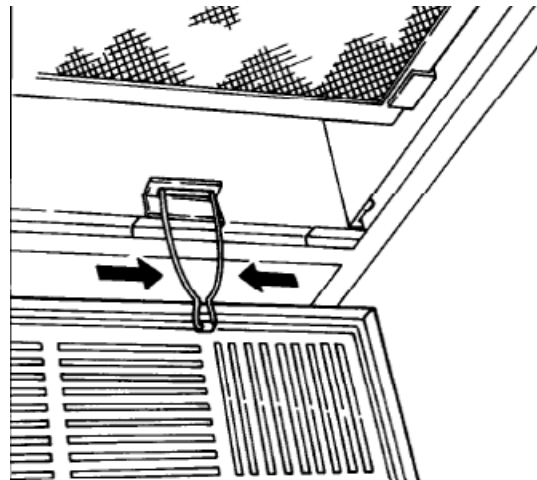

Figure 16: X-400 Grille Springs
4. Install the grille by squeezing two of the mounting springs located along one side of the grille and inserting the 'legs' of the springs into the slots in the mounting bars. Be sure the grille is oriented so it will swing up and cover the air cleaner correctly. Swing the grille up and attach the remaining two springs to the other mounting bar. At this point, simply push the grille toward the air cleaner and the springs will pull the grille up into its final position. See Figure 16 for reference.